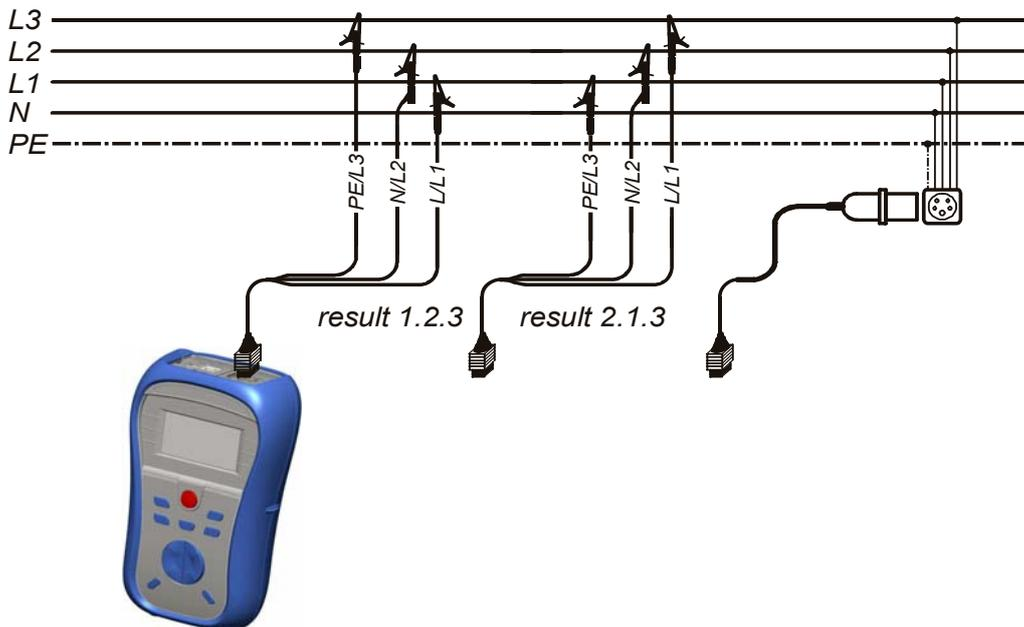

Figure 5.2: Connection of universal test cable and optional adapter in three-phase system
- ❑ **Connect** test leads to the item to be tested (see figures 5.2 and 5.3).